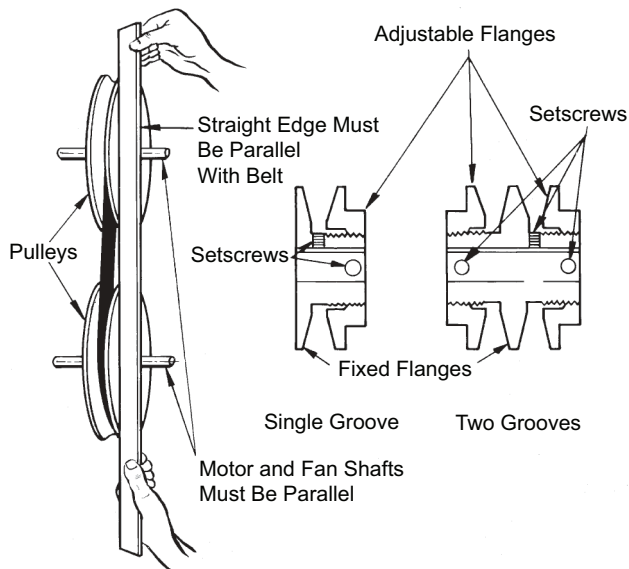

Fig. 24 — Fan Pulley Adjustments
3. Use the methods shown in Fig. 24 to check proper pulley alignment.
2. Loosen setscrew in movable flange of pulley. Screw movable flange toward fixed flange to increase the fan speed and away from fixed flange to reduce speed. Before tightening setscrew, make certain that setscrew is over nearest flat surface of pulley hub. (See Fig. 24.)